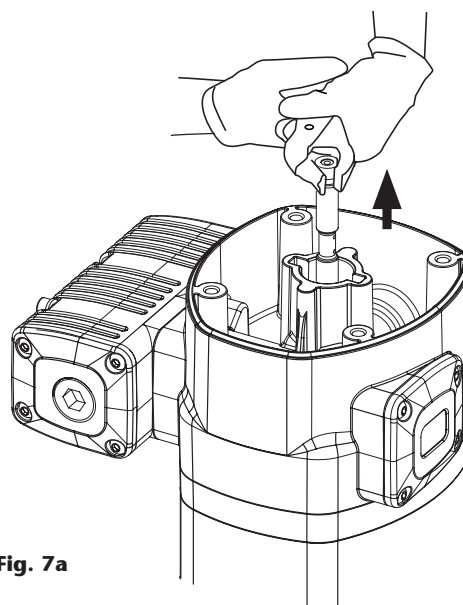

Fig. 7a
1. Unscrew the bolts (2) and remove the cap (3).
2. Unscrew the sensor sleeve (4).
3. With a manual clamp on the nut (5), pull the rod (40) outwards until its central recess appears (fig. 7a). Then, with another manual clamp, grab the rod (40) on said recess to prevent sealing surface to be damaged, and unscrew the nut (5) (fig. 7b).
4. Remove o-ring (6) and ring (7), and replace them with new ones later.
5. Unscrew the bolts (55). Pull the motor body (13) outwards to free it along with bridge (36).
6. Take away the gasket (9) and replace its seals (8) and (10).
7. Unscrew the bolts (37) and split the motor (13) from the bridge (36). Take away the washer (32) and replace the seal (8).
8. Take away the cylinder (50) while carefully holding the air piston (45). Replace the piston seal (44).
9. Reassemble in reverse order, applying thread locker in screws (37), nut (5) and sensor sleeve (4).